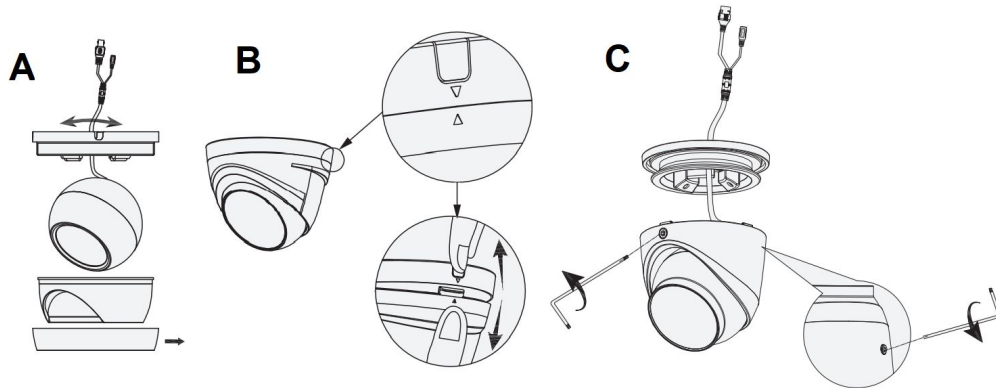

Figure 2-1
Step 1 Separate the mounting base from the camera. Some models feature a set screw that must be loosened or locking tabs that need to be lined up for disassembly of the camera. See Figure 2-1 for examples.